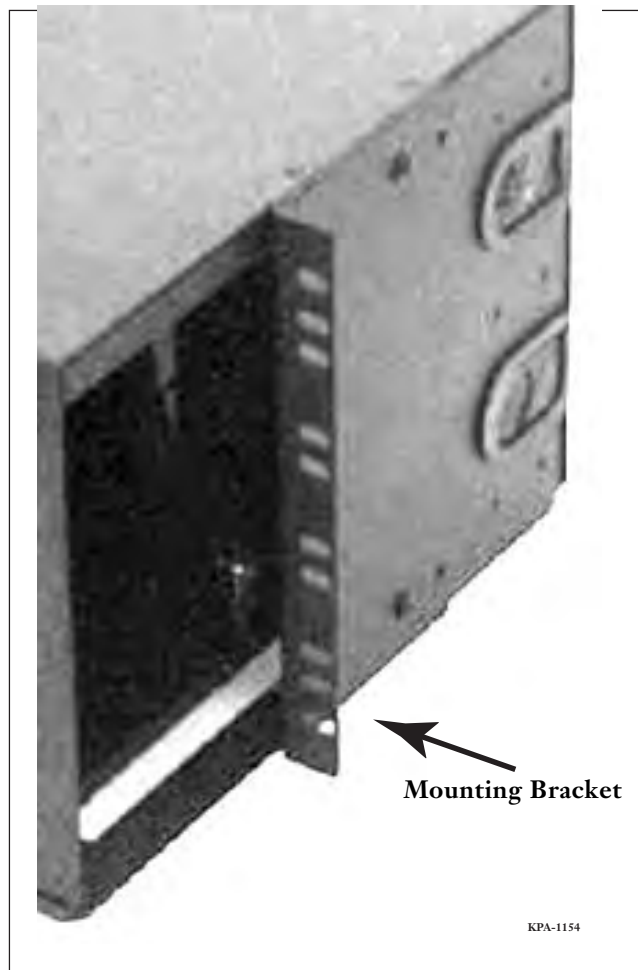

Figure 4
7.1 The CSH comes ready to mount in a 19-inch equipment rack with EIA/TIA universal hole spacing (Figure 4).